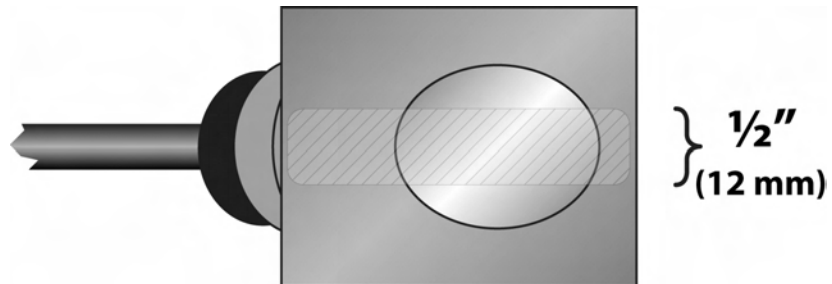

Figure 2.2
1. For DTTN transducers, place a single bead of couplant, approximately 1/2 inch [12 mm] thick, on the flat face of the transducer. See **Figure 2.2**. Generally, a silicone-based grease is used as an acoustic couplant, but any grease-like substance that is rated not to “flow” at the temperature that the pipe may operate at will be acceptable.
5. For DTTN transducers, place a single bead of couplant, approximately 1/2 inch [12 mm] thick, on the flat face of the transducer. See **Figure 2.2** on page 2.9. Generally, a silicone-based grease is used as an acoustic couplant, but any grease-like substance that is rated to not “flow” at the temperature that the pipe may operate at will be acceptable.
4. Place a single bead of couplant, approximately 1/2 inch [12 mm] thick, on the flat face of the transducer. See **Figure 2.2** on page 2.9.